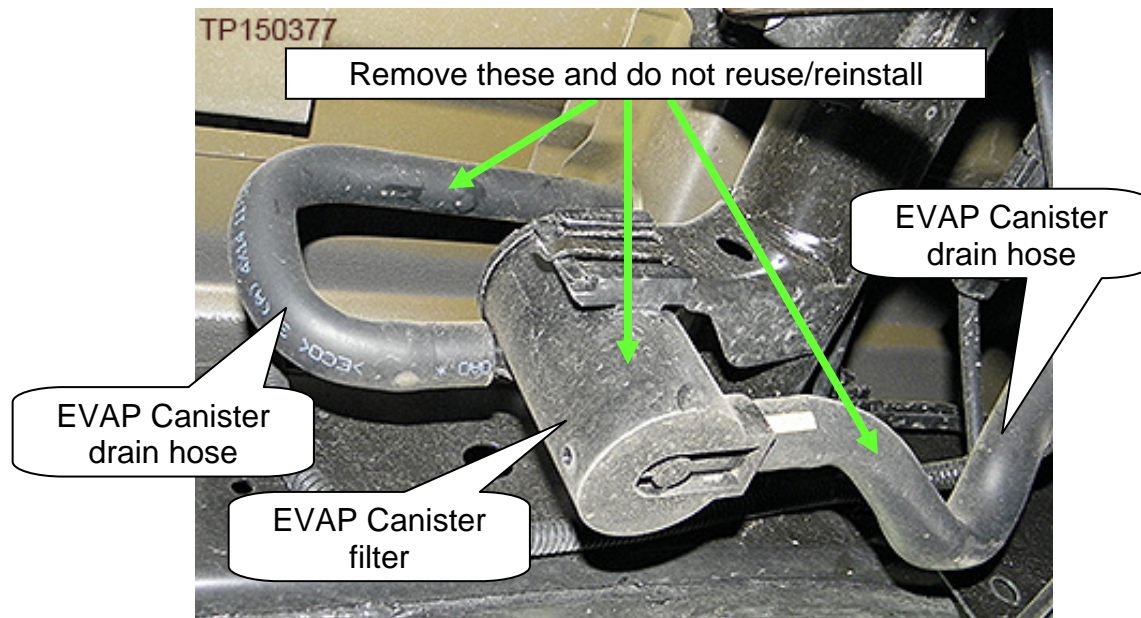

Figure 1
- EVAP Canister drain hose(s) and filter (if equipped) that connect to the vent control valve (Figure 1)
- The new canister drain hose (drain hose) replaces the drain hose(s) and filter (if equipped) that connect to the vent control valve (Figure 1). **The existing drain hose(s) and filter are not reinstalled.**